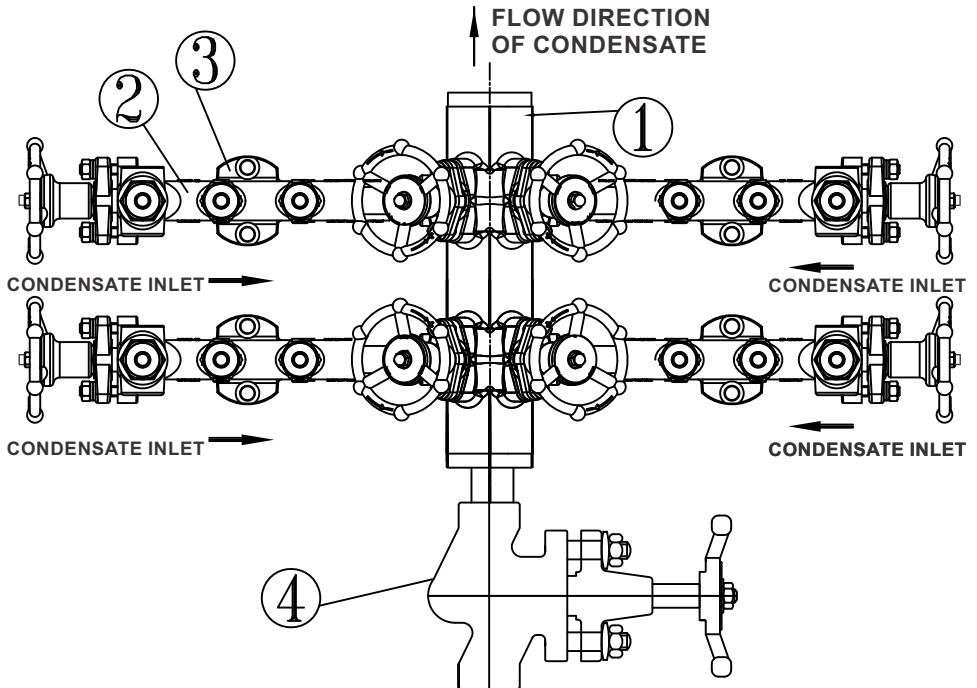

Figure 5: Typical installation of Forbes Marshall Condensate Manifold
1. Close the piston valve (6) and integral isolation valve of steam manifold (1).
2. Ensure the piston valve (6) is closed, open the strainer cap of the strainer (2) and trap bypass valve (DV1) of the FM Pipeline Connector [FMP C52]
4. Close the piston valve (6) slowly ensure no steam is passing through the strainer (2). Refit the strainer cap in strainer (2) and close the trap bypass (DV1) of the FM Pipeline Connector [FMP C52]
5. Open the piston valve (6) and integral isolation valve of steam manifold (1).
6.1.2. Forbes Marshall Condensate Manifold: [Refer figure 5]